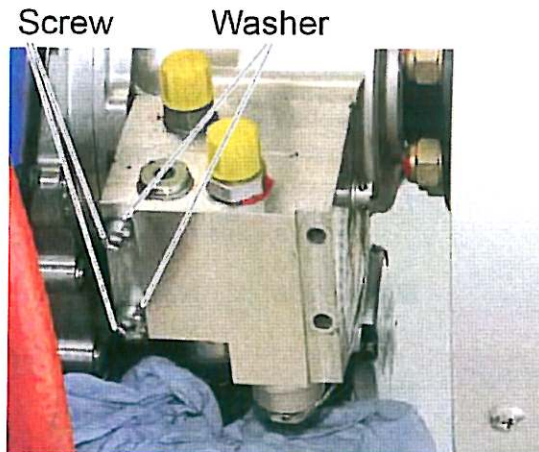

Figure 8
9. Detach the two screws and two washers at the left side of the Constant Speed Unit (CSU). Discard the screws and washers. See Figure 8.